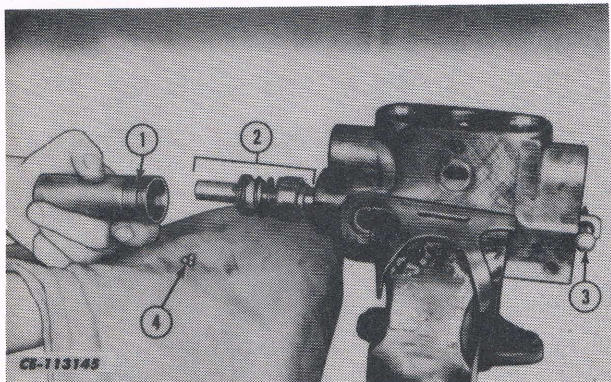
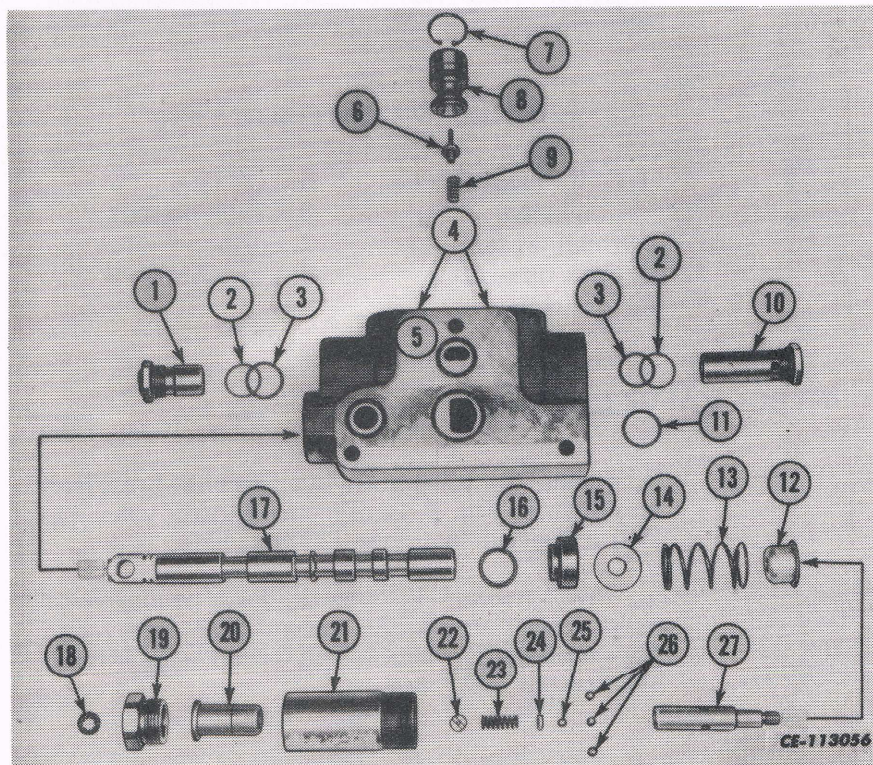

Fig. 8
Fig. 10
DISASSEMBLY (Refer to Fig. 10)
2. Remove the circuit relief valve capsule from the spool control end and the plug from the spring end of the valve body (5). Remove the "O" rings and back-up washers from the valve body.
3. Clamp the valve body in a vise with brass jaws as shown in Fig. 8. Loosen the control valve cap (19) and sleeve assembly. See Fig. 10.
4. Insert a punch through the spool as illustrated. Hold a rag beneath the sleeve. Then firmly pull the sleeve off the spool. The detent balls will fall into the rag. See Fig. 8.
6. Remove the control valve cap (19) from the cap retaining sleeve (21). Remove the position control sleeve (20). See Fig. 10.
7. If the centering spring actuator (27) requires service, remove the spring retaining plug. Record the position of the plug for reference during re-assembly. Remove the detent actuating ball (25) and washer (24). See Fig. 10.